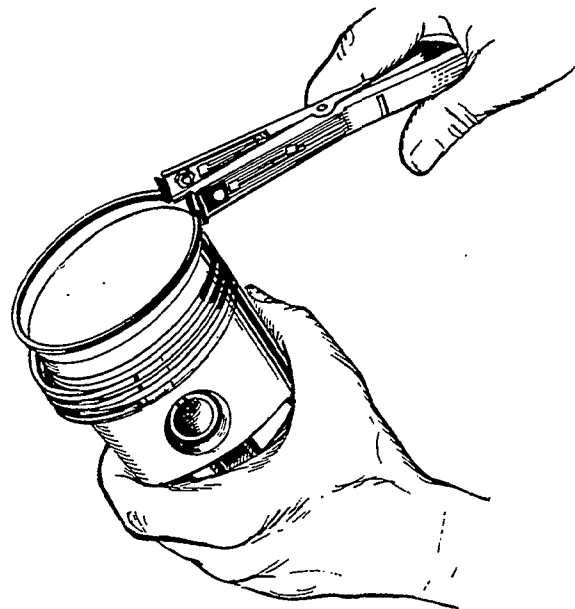

FIGURE 64. REMOVING PISTON RINGS
5. Remove the piston rings from the piston with a piston ring spreader as shown in Figure 64. Remove the piston pin retainer and push the piston pin out.